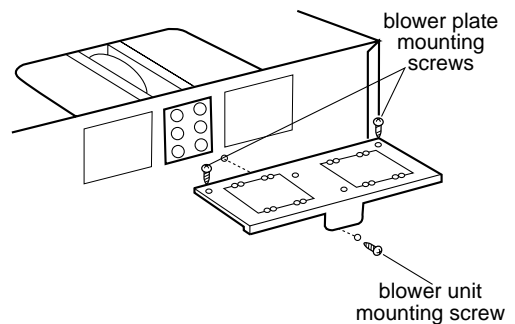

Figure 19
5. Reattach blower plate to microwave oven. Attach with one blower unit mounting screw and then two blower plate mounting screws. See Figure 19.